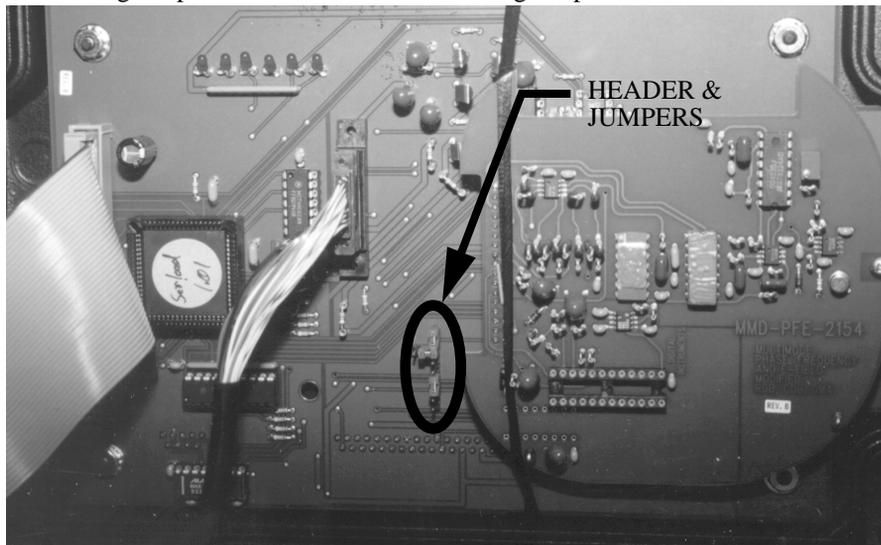
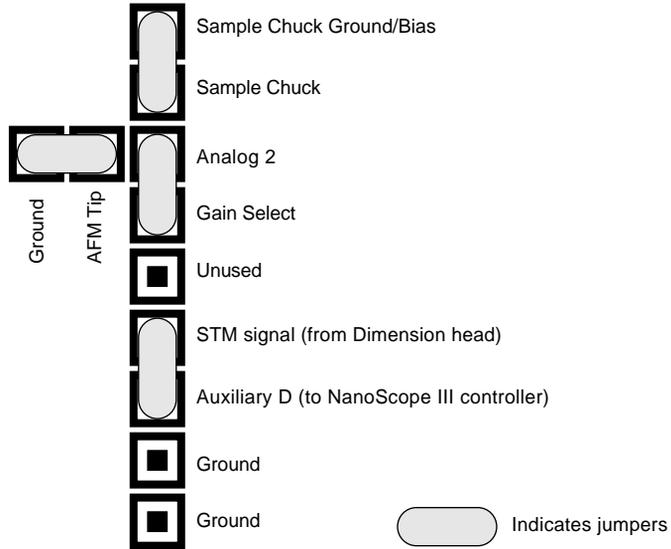
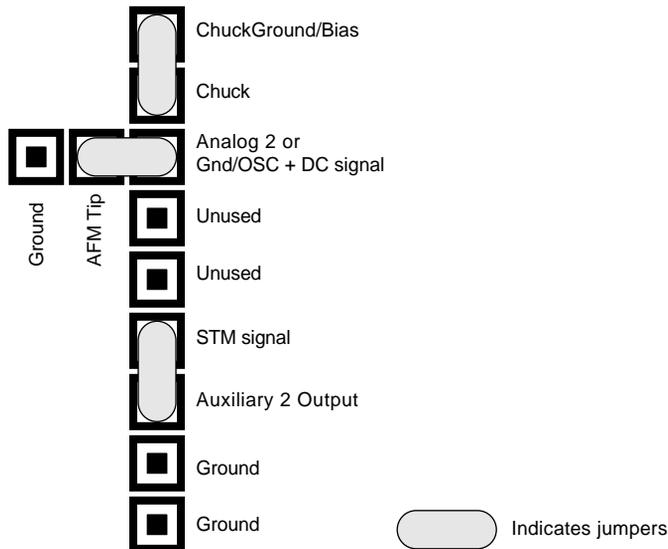
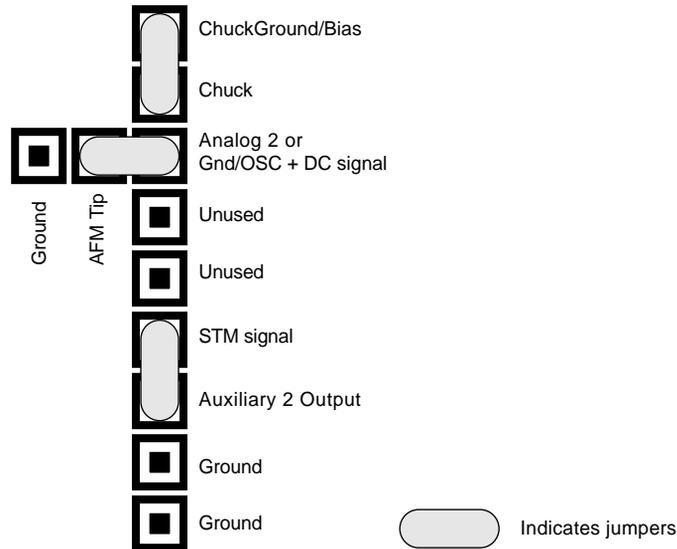

Figure 230-5 Dimension-series Microscope Backplane. Jumpers are circled.
Figure 230-6 Normal Jumper Configuration For Systems *Without* the Extender Electronics Module As Shipped From Factory
Figure 230-11 Normal jumper configuration as shipped from factory for Dimension systems *with* Extender Electronics Module installed.
Figure 230-22 Normal jumper configuration as shipped from factory for Dimension systems *with* Extender Electronics Module installed.
The backplane board used with Dimension-series SPMs is shown below in Figure 230-5. At the center of the board is located a header supplied with jumpers. For non-EFM applications and surface potential operation, jumpers are usually left in their original positions or returned to their original positions.
3. Remove the back panel on the microscope's electronic box. Locate header and jumpers per Figure 230-5 on the main electronics backplane. As shipped from the factory, jumpers on systems *without* the Extender Electronics Module should appear as shown in Figure 230-6, whereas jumper systems *with* the Extender Electronics option should appear as in Figure 230-11. If the microscope is to be used for EFM imaging in cases where voltage is applied to the tip or sample, it is necessary to change the jumpers.
As shipped from the factory, the jumper configuration on a Dimension-series system *without* the Extender Electronics Module should appear as shown in Figure 230-6 below.
As shipped from the factory, systems *with* the Extender Electronics option, should have an original backplane jumper configuration as shown in Figure 230-11.
Notice that the jumper configuration in Figure 230-12 connects the Analog 2 signal from the NanoScope III controller (± 12 VDC range) to the tip, and is **exactly the same** as the jumper configuration shown in Figure 230-11, the standard configuration as shipped from the factory.
2. Remove the back panel on the microscope's electronic box. Locate jumpers on the main electronics backplane panel per Figure 230-5. As shipped from the factory, the backplane jumpers should appear as shown in Figure 230-11 and reproduced here (Figure 230-22) for convenience.